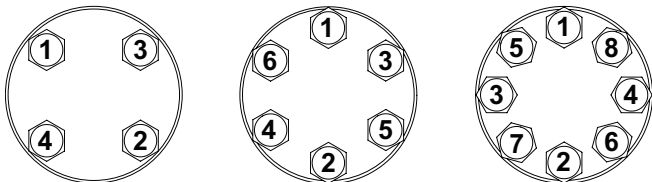

Figure 17 Bonnet Bolt Tightening Order Pattern
- 6 Follow proper body-to-bonnet bolting procedures. Begin to torque the bonnet nuts (Key 24) $\frac{1}{4}$ (25%) of the torque value listed in Table 4, torque the nuts in a crisscross pattern as shown in Figure 17. Hot torquing the valve nuts is not recommended.